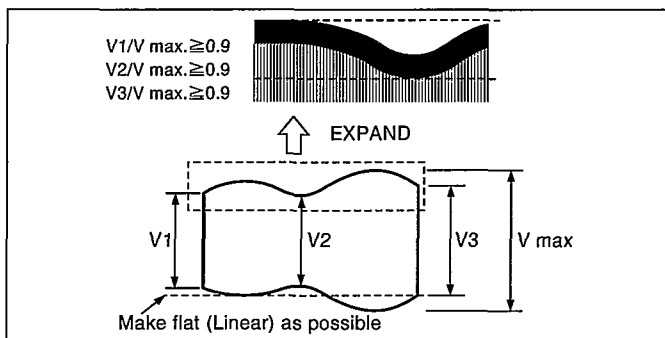

Fig. M-9
2. Connect the oscilloscope to "Envelope" and "GND" on the Measuring TP Board (VFK1409). Then playback the Alignment Tape (VFM3110EDS) and adjust S1 and T1 posts so that the envelope output is within following specification (Fig. M-9).